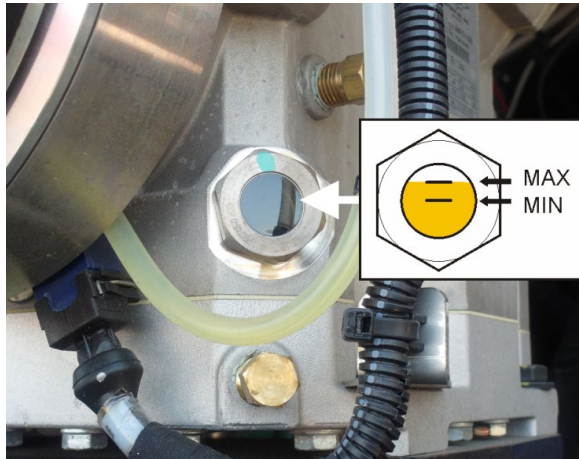

FIGURE 33: R.H. SIGHT GLASS
- R.H. sight glass: between 1/2 and 3/4 of sight glass height (Figure 33).